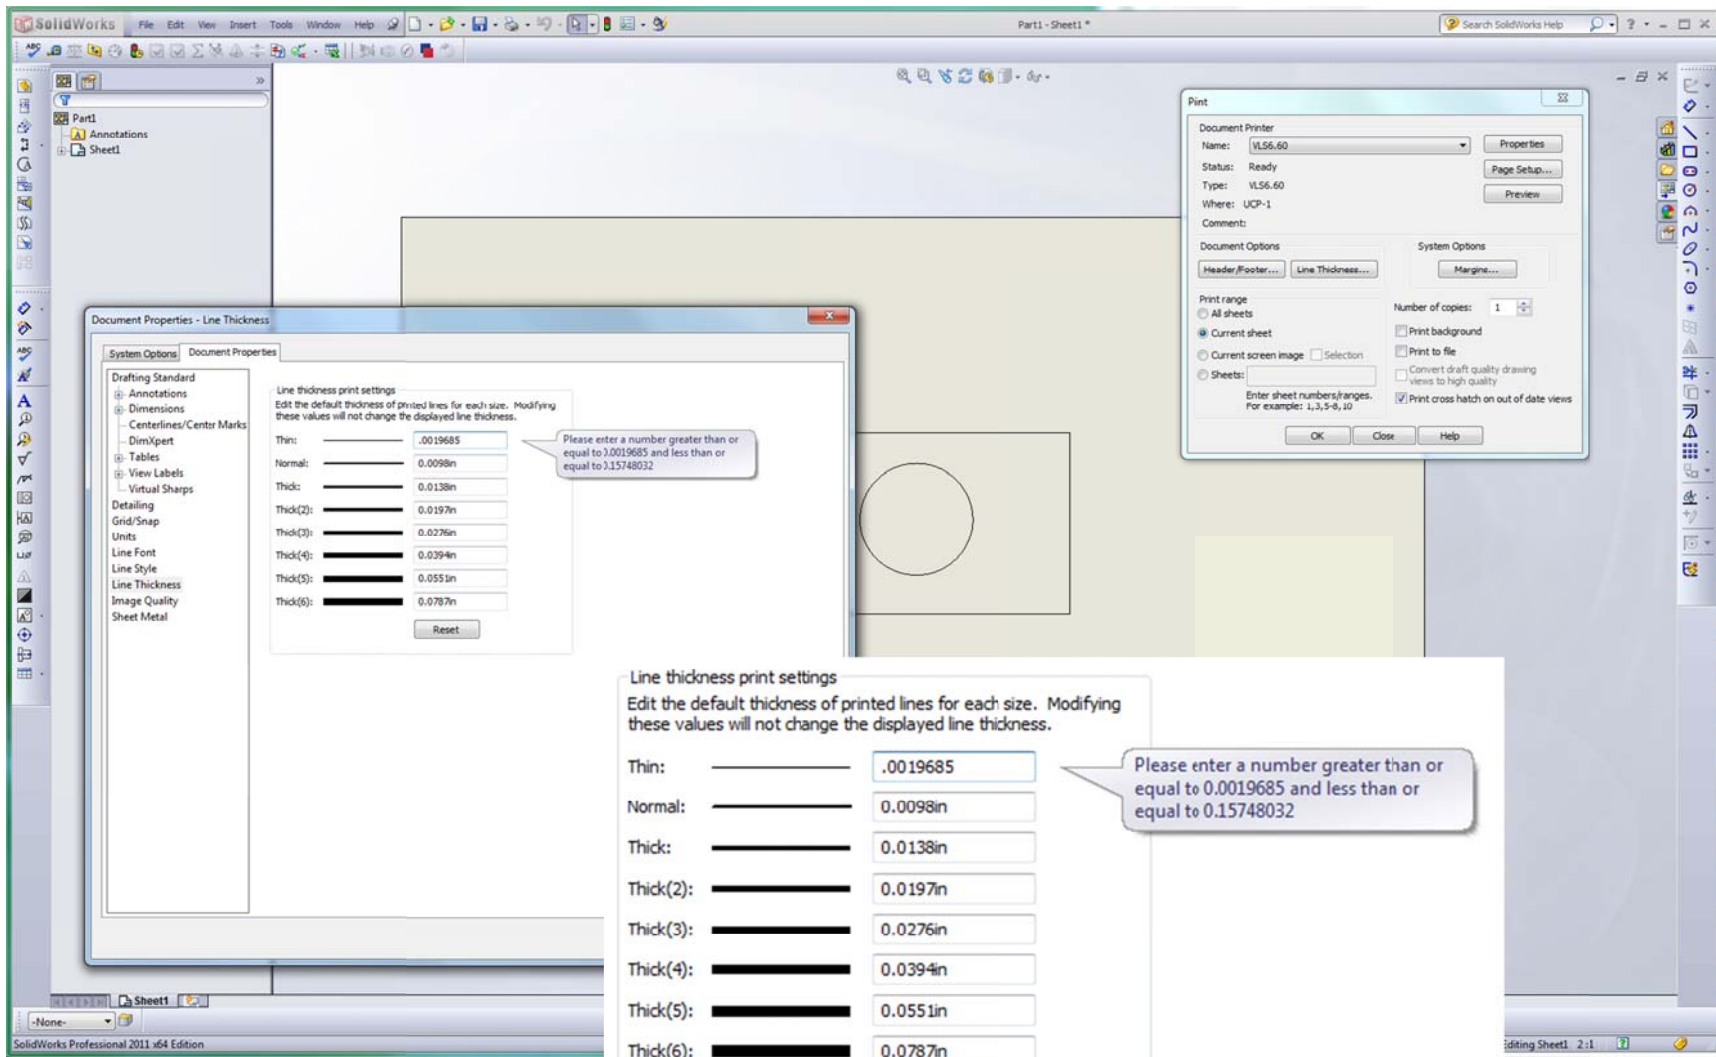

Figure 1
**Print Setup:** See Figure 1. In the print setup screen, set all the line thicknesses to the smallest value allowed (.0019685"). Do not round up to .002". You must type in the smallest value. Print using image densities 5 or 6 only.